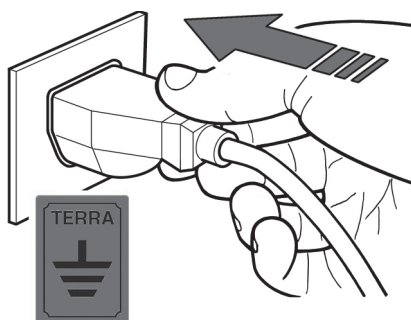

fig. 10
- It is imperative that the complete equipment is properly connected to an efficient earth connection (fig. 10).
- 2) Insert the power plug into the socket provided by the customer (fig. 10), making sure that it has earth contact and that there are no multiple sockets connected.